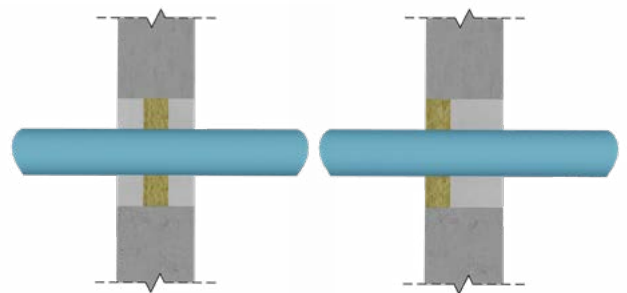

Figure 3
2. Apply the compound using the specified shuttering method (See Figure 3).